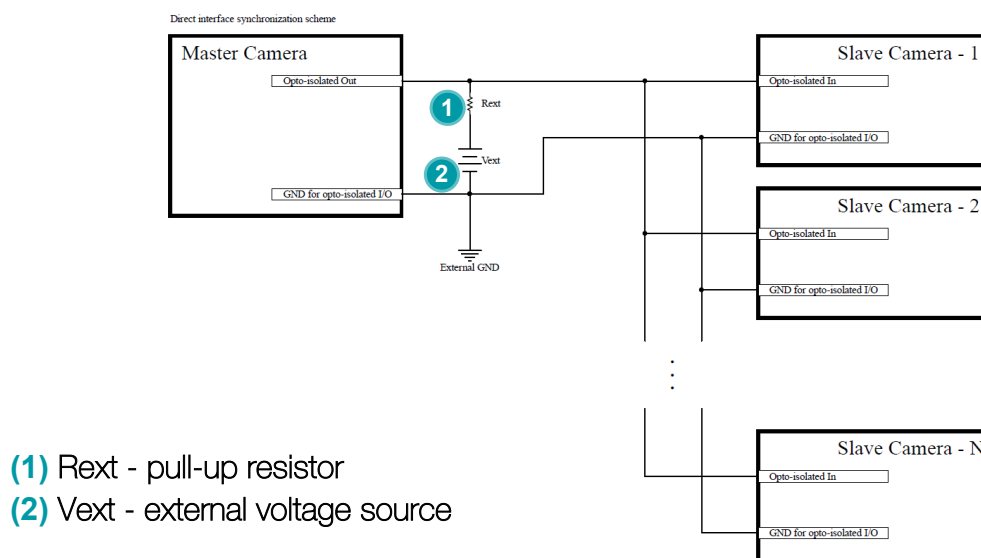

Figure 4 – Synchronization Scheme
The electrical scheme of synchronization between "Master Camera" and multiple "Slave Cameras" is shown in Figure 4. The "Master Camera" black box presents simplified **Opto-isolated OUT** scheme, while the "Slave Camera" black boxes present simplified **Opto-isolated IN** schemes.
For HW synchronization **Opto-isolated OUT** of the "Master Camera", it must be connected to **Opto-isolated IN** of multiple "Slave Cameras" as shown on Figure 4. Additionally, GND for opto-isolated I/O of all cameras is common.
Using the synchronization scheme presented in Figure 4, one "Master Camera" can trigger at least 7 "Slave Cameras", meaning that at least 8 cameras can be synchronized this way. The value of **Rext** resistor should be selected carefully, considering the number of cameras and external voltage source **Vext** used in the system.
**Information:** Connecting more than 7 "Slave Cameras" in a multi-camera system as shown in Figure 4, could decrease voltage level representing logical 1 at **Opto-isolated IN** below the value given in electrical specification for opto-isolated input (see Table 2), and might lead to incorrect level recognition. It is recommended to verify that the voltage level at opto-isolated input is inside specified range with an oscilloscope.